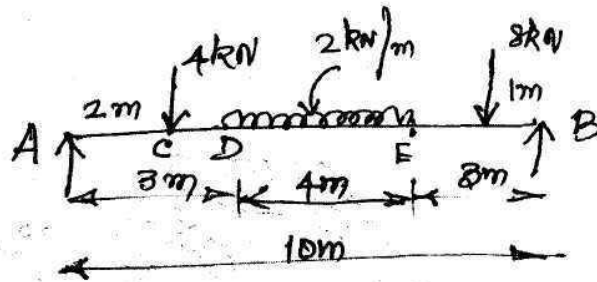

Figure -3
5. Draw shear force diagram and bending moment diagram for the beam shown in the figure-3. Locate the point where the bending moment is maximum. (15)